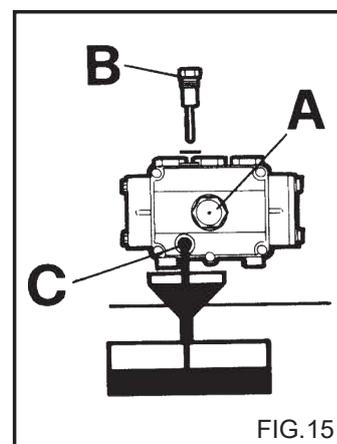

FIG. 15
2) Unscrew the cap with the dipstick (fig. 15).